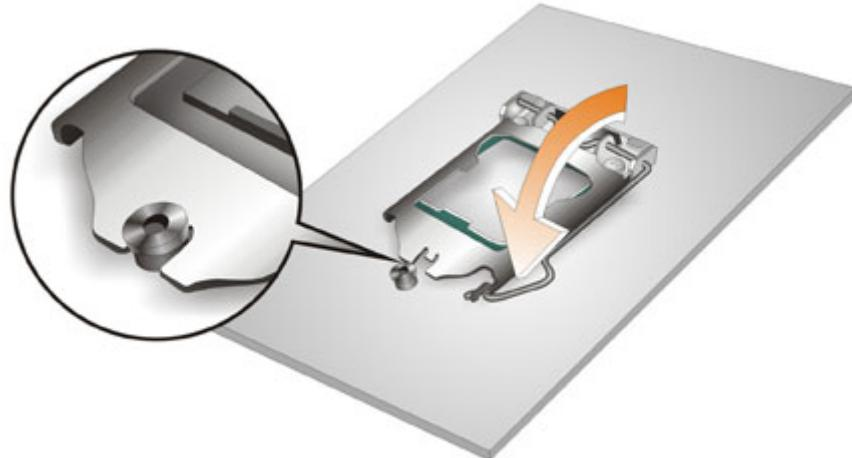

Figure 4-4: Close the Socket LGA1150
**Step 8: Close the CPU socket.** Close the load plate and pull the load lever back a little to have the load plate be able to secure to the knob. Engage the load lever by pushing it back to its original position (**Figure 4-4**). There will be some resistance, but will not require extreme pressure.